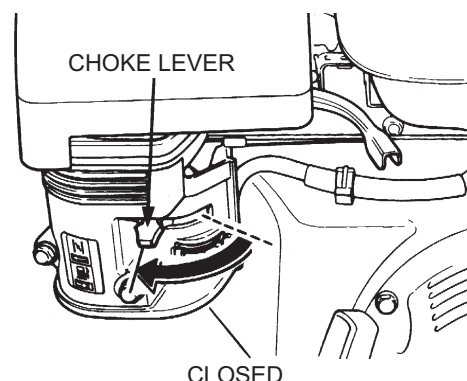

Figure 14. Choke Lever (Closed)
3. Place the choke lever (Figure 14) in the "CLOSED" position if starting a cold engine.